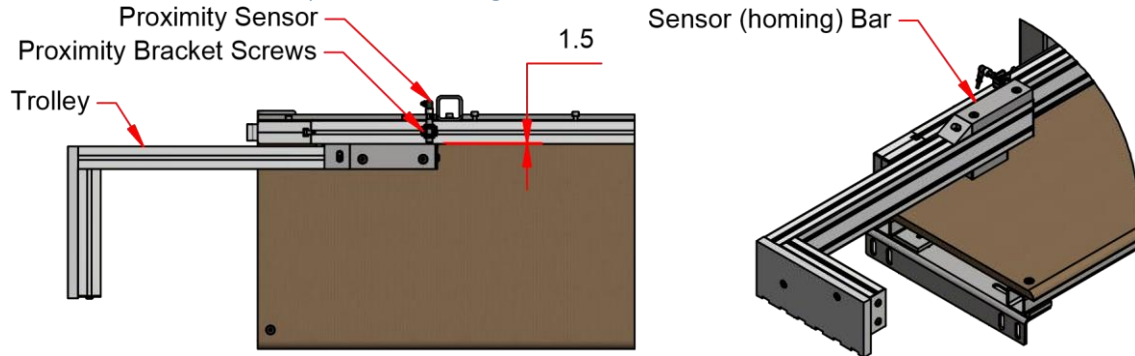

Figure 7, Vector proximity sensor configuration
- Position the proximity sensor to the rear of the sensor bar as shown in Figure 7.